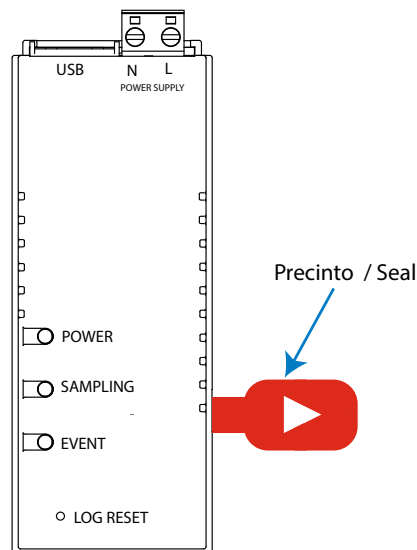

Figure 3: Seal from the internal battery.
1.- Remove the seal from the internal battery. To do this, pull the seal in the direction of the arrow, as shown in, **Figure 3**.